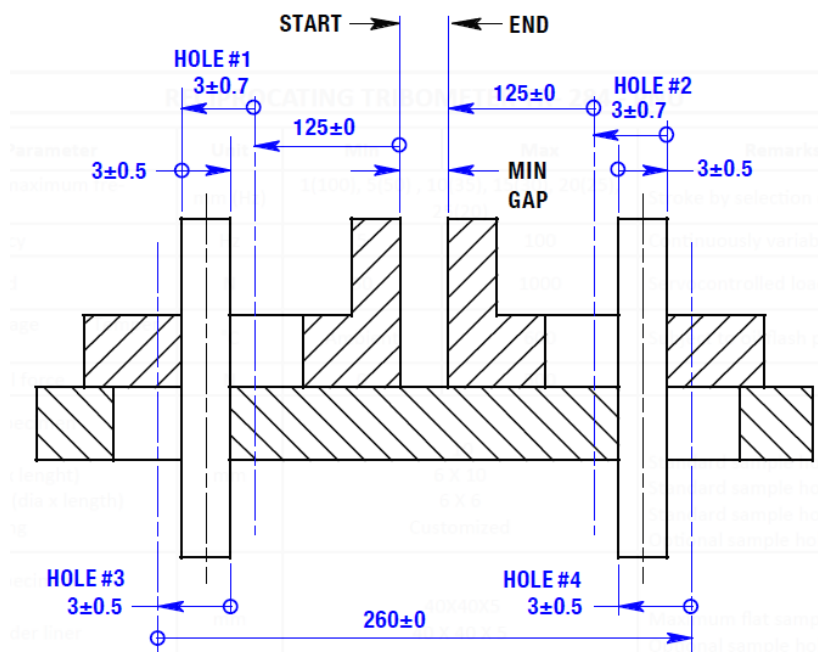

Figure 2
3A **Figure 2** represents vector loop tolerance stack-up diagram of an assembly. Perform the worst case tolerance analyses, draw tolerance table and compute the minimum gap in the assembly. (04)